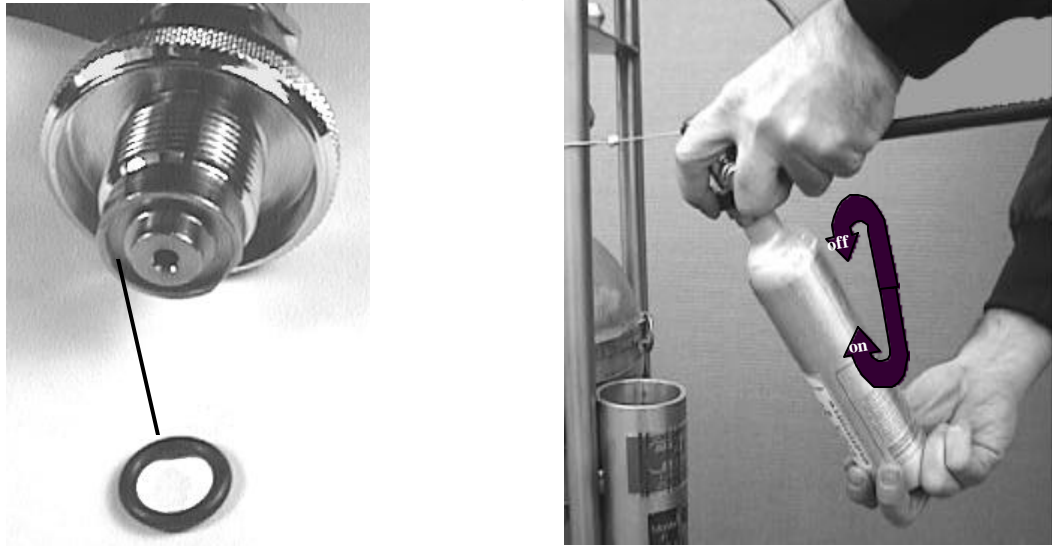

Figure 4-3. Handwheel Assembly O-Ring Figure 4-4. Rotating HABD ON-OFF
b. Inspect the PRS to assure that all of the hoses and o-rings are in good condition. Inspect the o-ring for the handwheel, which connects the PRS supply hose with the supply cylinder for nicks, tears and deterioration. (Figure 4-3). If a hose is damaged, it must be replaced prior to pressurizing the unit (see service instructions). Be sure to use the proper hoses when replacing them. Some hoses have oil in them which is not good for breathing air. Inspect all visible o-rings and if they are cut or damaged in any way, replace with proper o-ring.